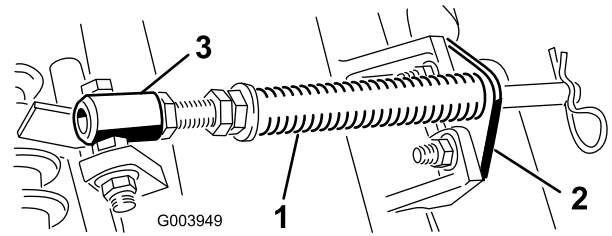

Figure 4
- B. Remove the flange nut securing the spring tube bolt to the carrier frame tab (Figure 4), and remove the assembly.
Note: Position the bolt head to the outer side of the tab as shown in Figure 4.
- A. Remove the 2 carriage bolts and nuts securing the rod bracket to the cutting unit tabs (Figure 4).